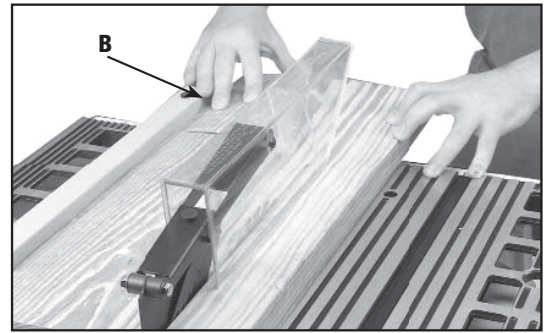

Fig. 40
Ripping is cutting lengthwise through a board. The rip fence (A) Fig. 40 is used to position and guide the work. One edge of the work rides against the rip fence while the flat side of the board rests on the table. Since the work is pushed along the fence, it must have a straight edge and make solid contact with the table. The saw blade guard must be used. The guard has anti-kickback fingers to prevent kickback and a splitter to prevent the wood kerf from closing and binding the blade.
1. Start the motor and advance the work holding it down and against the fence. Never stand in the line of the saw cut when ripping. Hold the work with both hands and push it along the fence and into the saw blade (Fig. 40). The work can then be fed through the saw blade with one or two hands. After the work is beyond the saw blade and anti-kickback fingers, the hand is removed from the work. When this is done the work will either stay on the table, tilt up slightly and be caught by the end of the rear guard, or slide off the table to the floor. Alternately, the feed can continue to the end of the table, after which the work is lifted and brought along the outside edge of the fence. The cut-off stock remains on the table and is not touched until the saw blade has stopped, unless it is a large piece allowing safe removal. When ripping boards longer than three feet, use a work support at the rear of the saw to keep the workpiece from falling off the saw table.